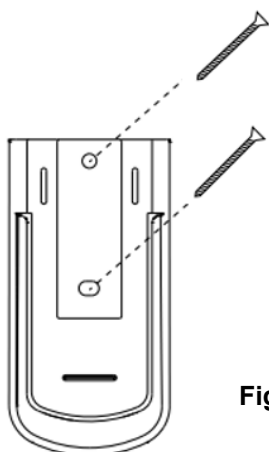

Fig. 11a
- Locate a suitable wall to fix the remote control holder with the 2 screws. (Fig.11a).